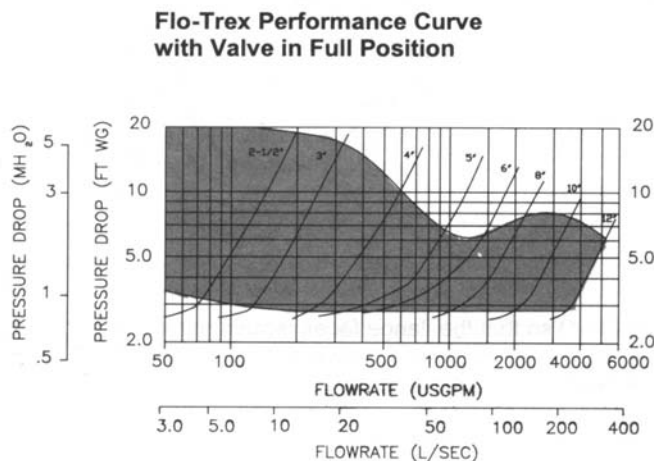

Fig. 2
6.23 Refer to Flo-Trex Performance Curves with valve in full open position (Fig 2).
- 6.3.4 On the Flo-Trex Performance Curve (fig. 2) locate the differential pressure obtained in Step 6.3.2 and project line horizontally across to intercept with Valve Performance Curve. Drop a line vertically down to read the flow rate at the bottom of the chart.
- From the Flo-Trex Performance Curve (fig 2), a 4 inch, valve with 5.4 ft. pressure drop (1.65 m) represents a flow of 400 USgpm (25.2 l/s).